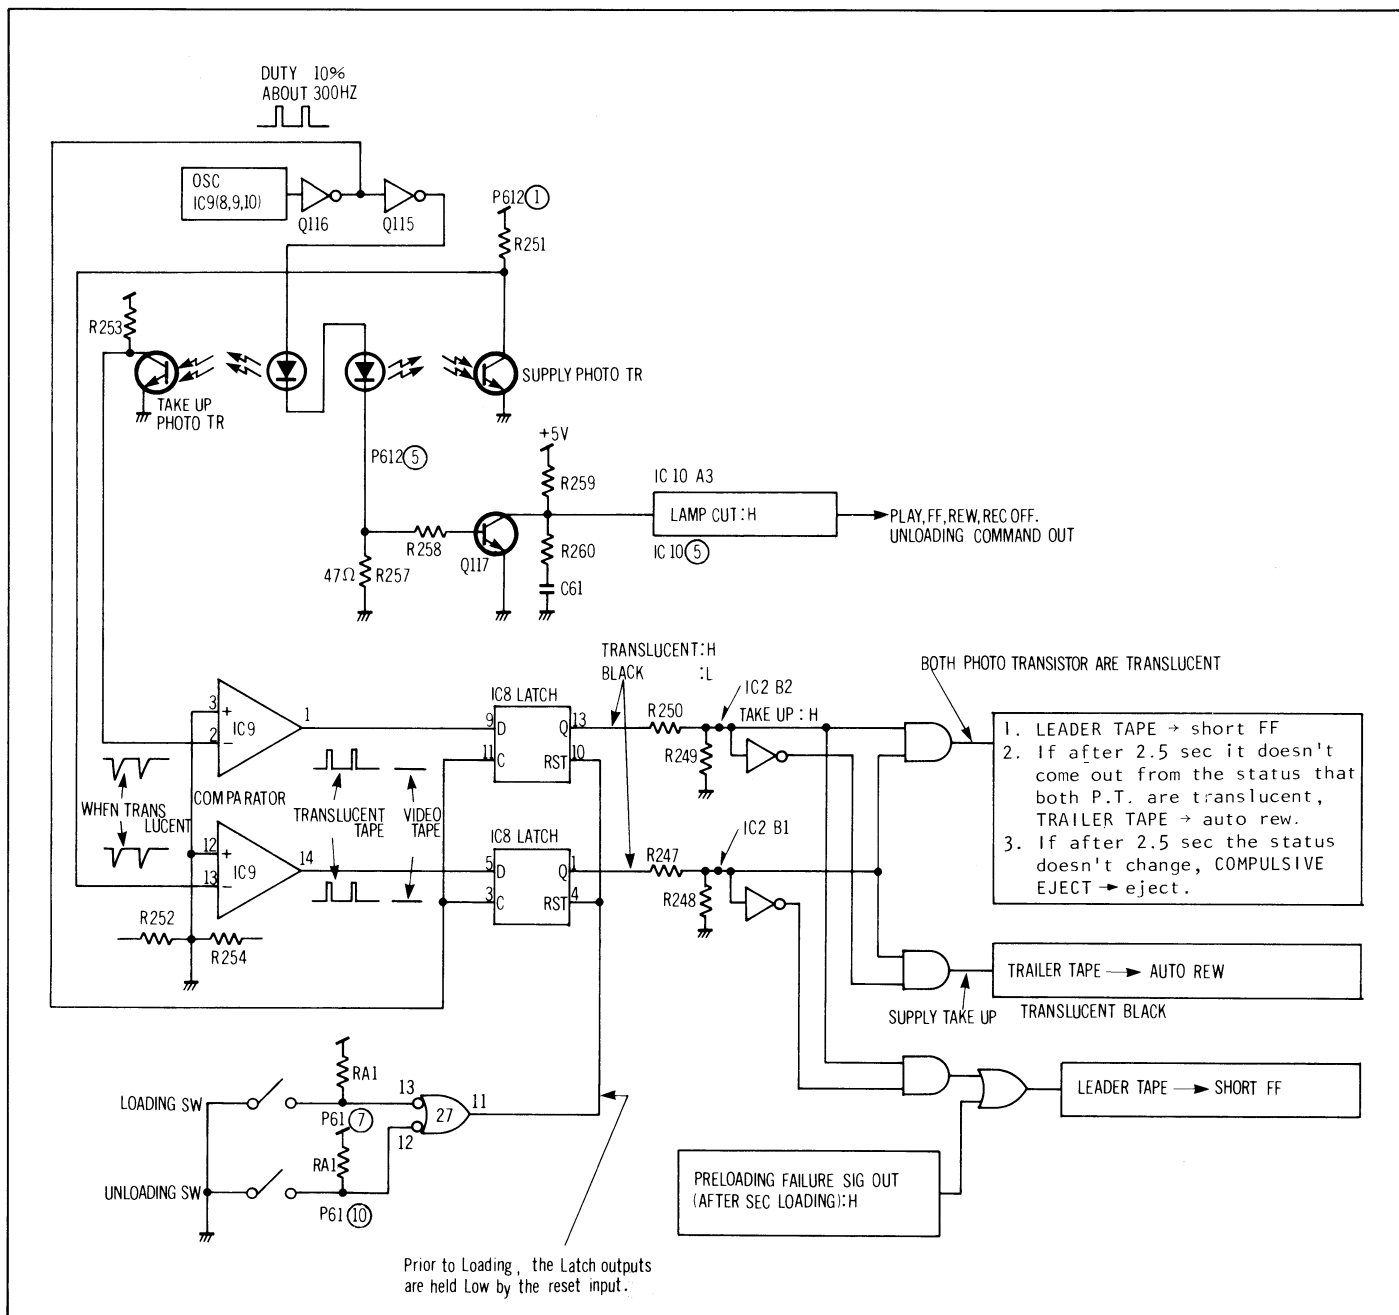

Figure 2-24
The special inputs are those generated by other circuits, such as the Dew detector and Photo transistors. See Figure 2-24 for an overall diagram of the end of tape sense circuit.
Should the LED fail, C61 charges and a high appears at IC10 (5), the A3 input, which will be multiplexed to the B port of the MPU. (See Figure 2-24)